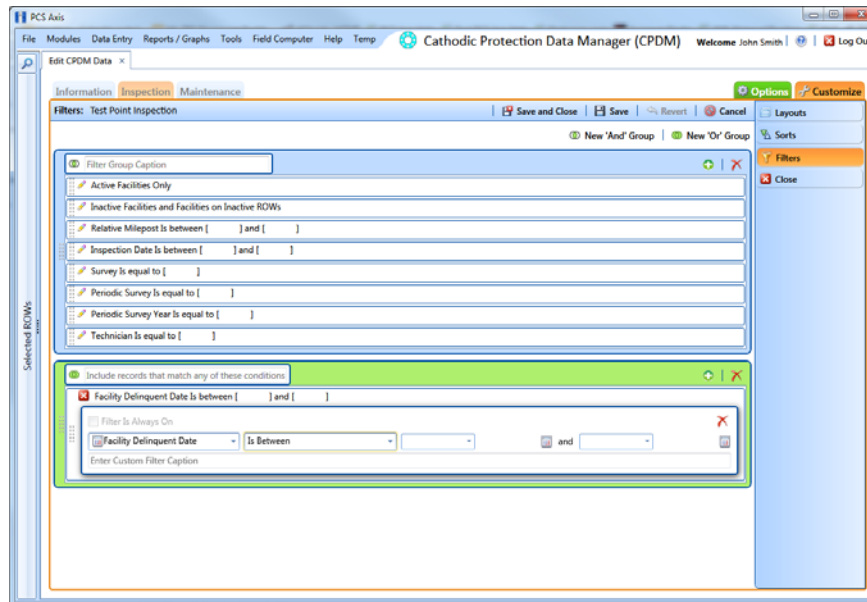

Figure 6-76. Filters
- 4 Click  **New 'Or' Group** to open a filter properties group box (Figure 6-76, page 246).
- 7 If the OR filter group includes a date filter, such as *Facility Delinquent Date Is Between* shown in Figure 6-76 (page 246), set a date range using a calendar or dynamic dates in the following manner: